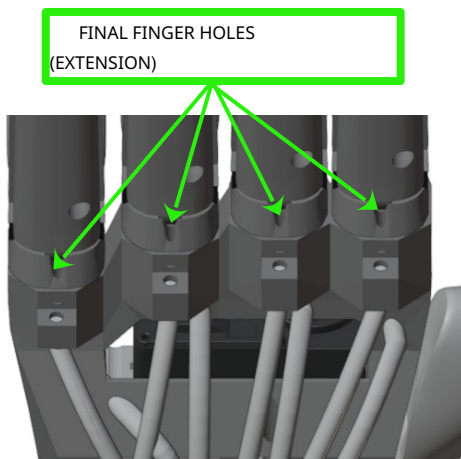
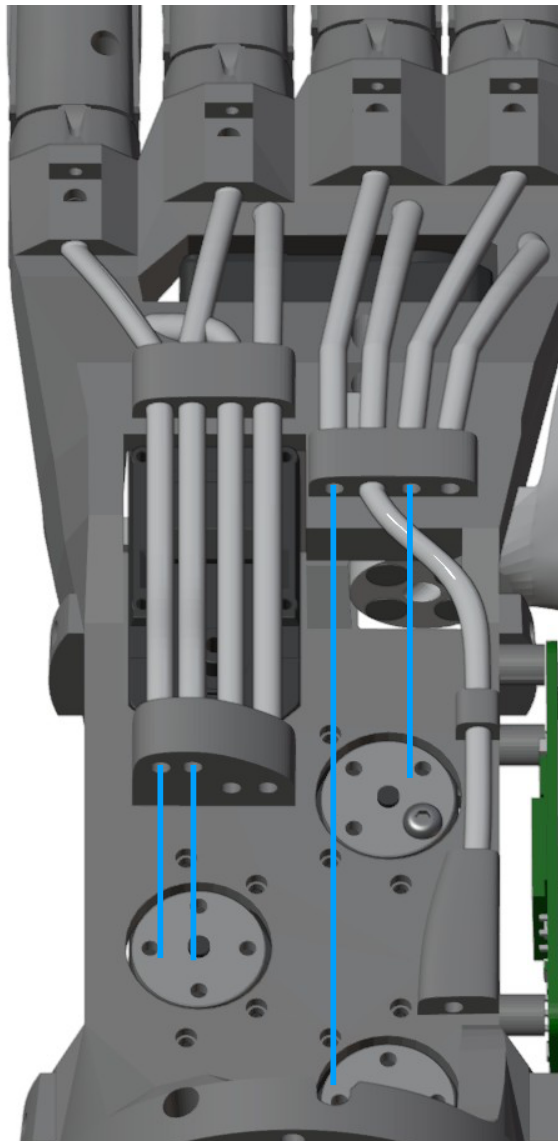

Figure 5.46: Tendon entry holes (extension)
Figure 5.47: Extension extremity of the tendons exiting from the bowden tubes
3. On the back of the skeleton: insert the two ends of the nylon needle into the final hole of the finger and then into the underlying entry hole of the bowden tube (figure 5.46).
5. Insert the end of the extension tendon into the loop of the nylon needle left outside the final hole of the finger (figure 5.46) and pull the ends of the nylon needle from the other end of the bowden tube, until the entire tendon comes out of the exit hole (figure 5.47)